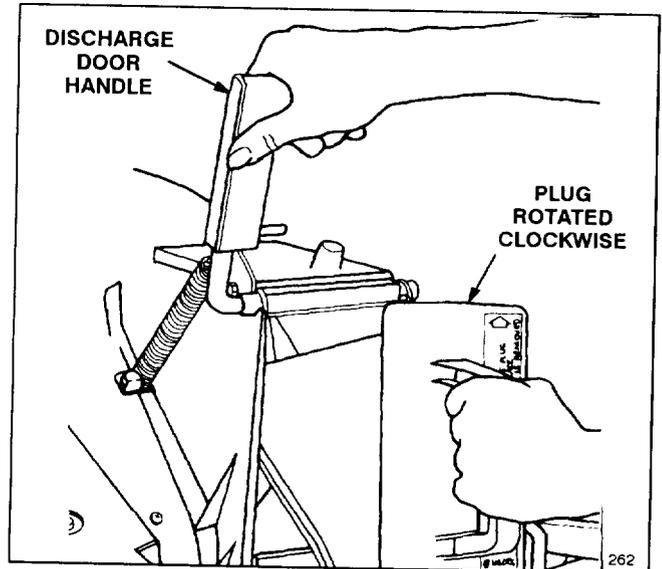

Figure 8
1. Make sure engine is shut off. Open the discharge door by pulling forward on the handle and moving it rearwards (Fig. 8). Hold the discharge door
2. Since the plug is slightly wider than the discharge tunnel opening, you must rotate the plug clockwise slightly while inserting it (Fig. 8). Make sure the arrow on the plug decal is pointing upwards.